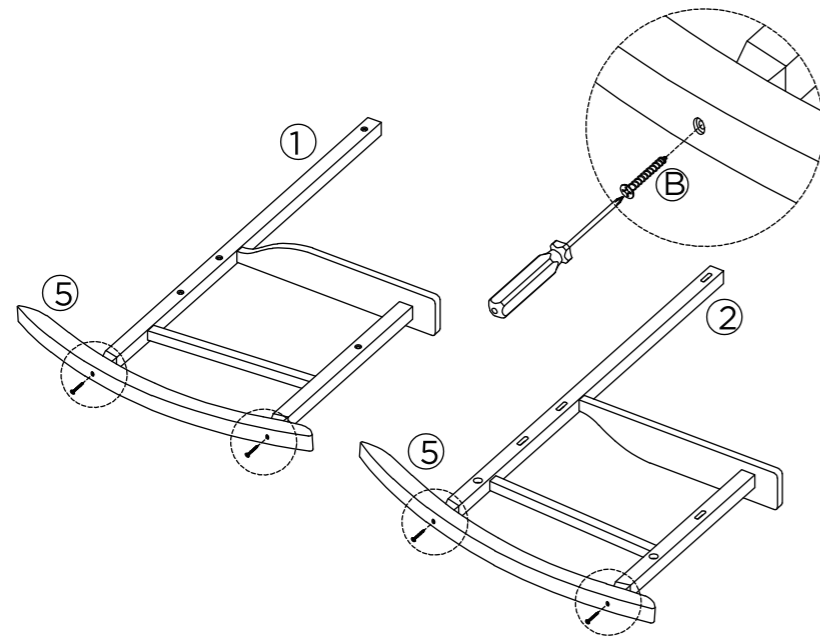

Fig. 1
1. Align the holes of the right leg (1) and left leg (2) with the runners (5) and insert the screws (B). Tighten using screwdriver (not included). See Fig. 1.